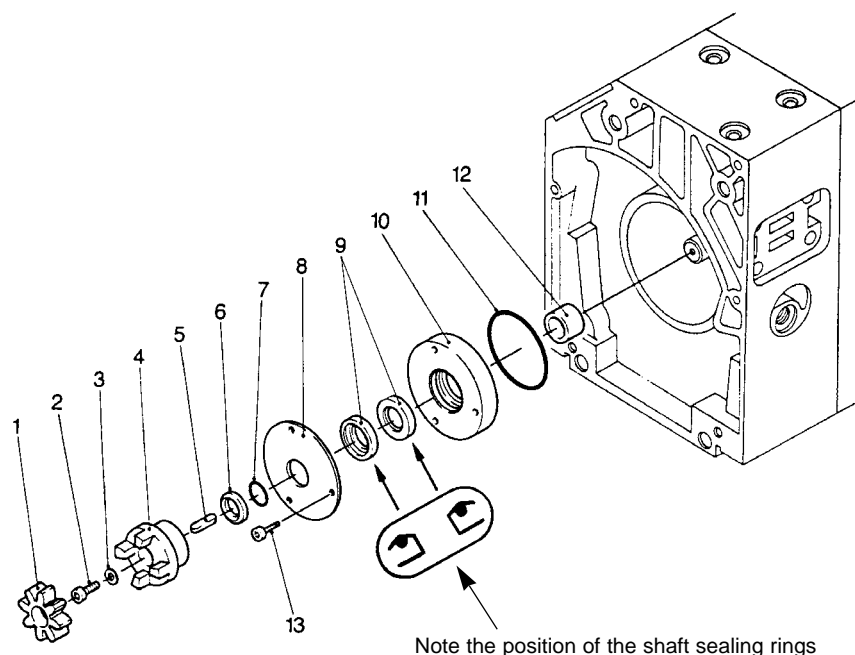

Fig. 12 Exchanging the shaft seal
**Key to Fig. 12**
Using a suitable plastic or aluminium cylinder (shaft seal driver) and a plastic hammer, force the shaft seal (12/9) carefully and without bending it into the centering disk (for position of shaft seal, see Fig. 12).